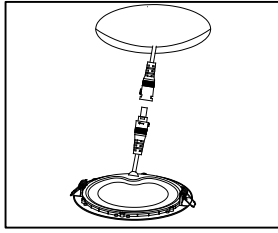

fig. 3
3. Connect the J-BOX to light module (fig. 3).